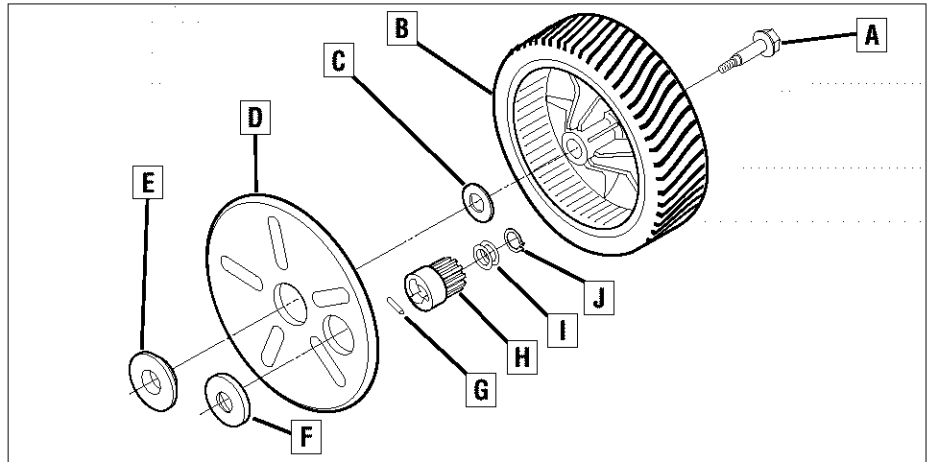

Figure 5-18: Drive wheel assembly.
2. Use a 9/16" wrench to remove wheel assembly (A, B, C, D, E, Figure 5-18).
3. Remove snap-ring (J, Figure 5-18) from axle.
4. Remove shim(s) (I, Figure 5-18). The number of shims vary from mower to mower. Put them next to the snap-ring.
5. Pull off pinion gear (H, Figure 5-18).
6. Remove drive pin (G, Figure 5-18).
7. Remove plastic washer/seal (F, Figure 5-18).
9. Reinstall washer/seal (F, Figure 5-18). Be sure to install flat side of washer against bearing (mower deck).
10. Insert the drive pin (G, Figures 5-18) into the hole in the axle.
12. Slide the pinion gear (H, Figure 5-18) onto the axle with the cavity toward the mower. Press the gear firmly against the washer/seal (F, Figure 5-18). Be certain that the gear is flush against the surface of the washer/seal and that the washer/seal is flush against the wheel mounting bracket.
13. Slide the shims (I, Figure 5-18) onto the axle and against the pinion gear. Be sure to install the same number of shims as were removed from the unit.
14. Install the snap-ring onto the axle (J, Figures 5-18) and into the groove in the axle. Pull the pinion gear outward to be sure that the snap-ring seats properly.
15. Insert wheel screw (A, Figure 5-18) through wheel (B), flat washer (C), center hole in wheel shield (D), and spacer (E). The wheel shield has a double edge on the rim. Position this side toward the wheel.